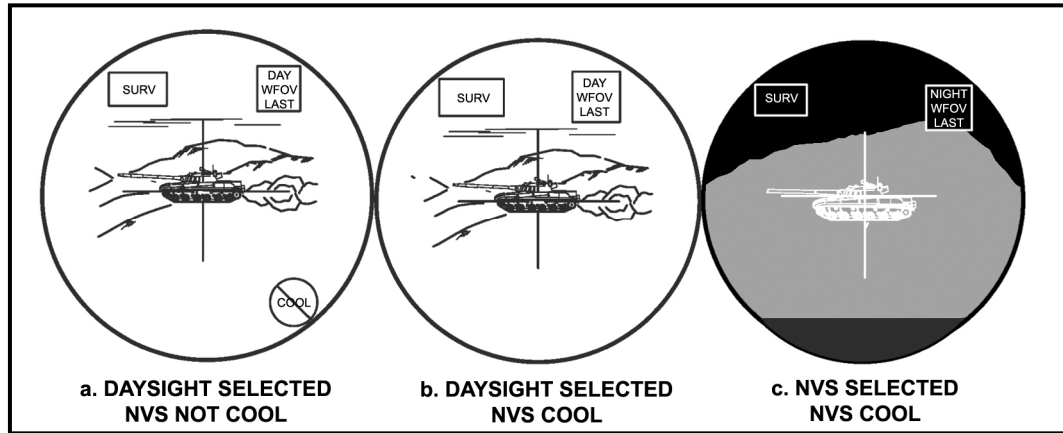

Figure 2-21. Power switch—ON position.
(3) **ON Position.** When the power switch is placed in the ON position, a PBIT is automatically activated. After completion of PBIT, daysight capability is immediately available to the operator (A, Figure 2-21).
(b) **NVS.** The gunner can engage targets with the NVS after cool down (approximately 10 minutes) and the NVS NOT COOL indicator has gone off (C, Figure 2-21). After the NVS cools, the operator can select NVS operations by pressing the SGT SEL switch or remain in daysight until NVS capabilities are required (B, Figure 2-21).